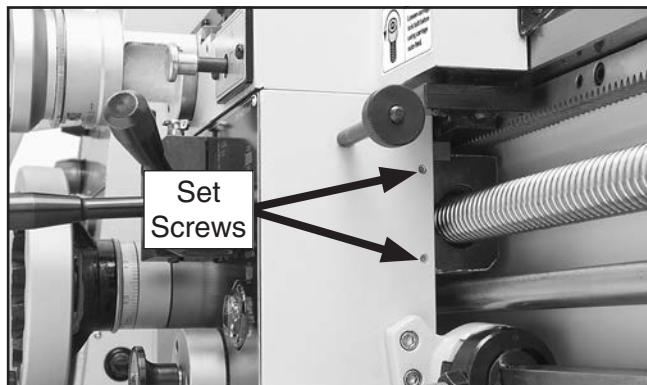

Figure 121. Half nut gib adjustment.
3. Turn the two set screws (see **Figure 121**) clockwise to tighten the half nut and counter-clockwise to loosen it. Make sure to turn the set screws in even amounts so that one end of the gib does not become tighter than the other.